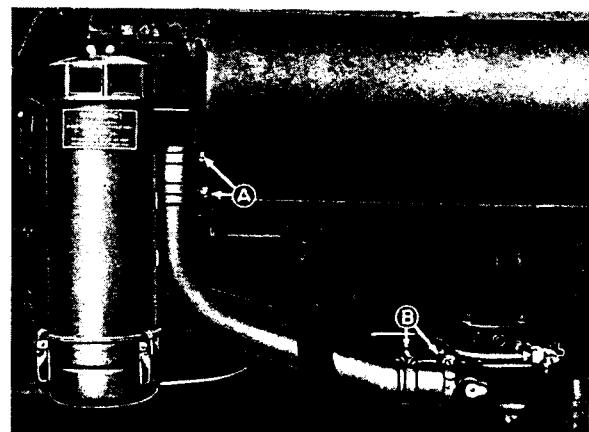
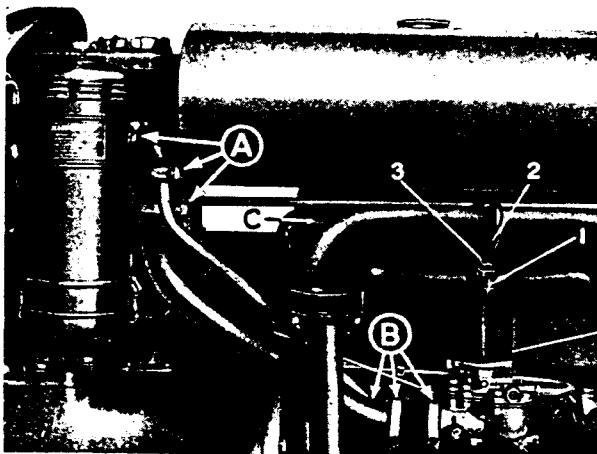
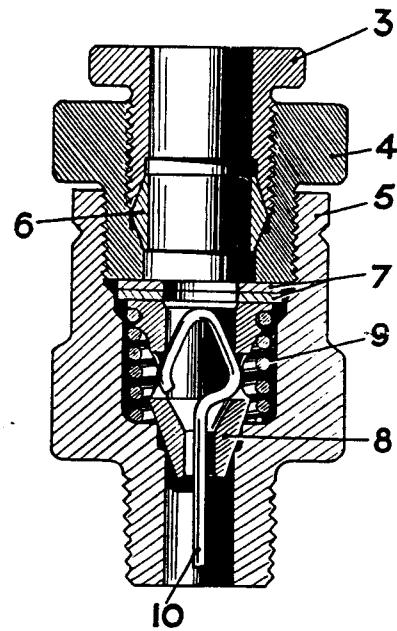

FIG. 7
FIG. 9
FIG. 10
For illustration of air cleaner fitted to tractors type TE-20 see Fig. 7, or to all other tractors see Fig. 9.
6. Ensure that the hose connections A and B, Figs. 7 and 9, on the air pipe leading from the cleaner to the carburetter (also, in the case of all tractors except type TE-20, from the cleaner to the crankcase) are air tight and the hoses not cracked or swollen.
**Note :** Tractors except type TE-20 —see Fig. 9. The air cleaner has a second, smaller, outlet connected by a rubber hose to a pipe leading through an elbow to the crankcase.
**Air Bleed to Induction Manifold — Engine Ventilation. Except Tractors type TE-20. Figs. 9 and 10.**
An air breather valve assembly (1), Fig. 9, is fitted to the induction manifold. Through this valve is induced a bleed of warm oil-saturated air, from the chamber enclosed by the rocker cover (C), assisting carburation and providing upper cylinder lubrication. The consequent depression in the rocker cover creates a flow of air through the push rod passages from the crankcase, which is replaced by air from the small outlet of the cleaner. The original design of the valve provided for an automatic weakening of mixture with increasing engine speeds. A modification subsequently incorporated in production above engine serial No. S.12771E, recommended the fitting of sufficient washers (7) as illustrated in Fig. 10 to seat the valve (8), thus providing a constant air bleed irrespective of engine speed. To ensure that the valve makes a seal on its seat, a gap must be maintained between the valve body (5) and nut (4). All figures given for carburettor adjustment apply only if this modification has been carried out.
**To Remove Air Breather Valve Assembly. See Fig. 9.**
1. Unscrew union screw (3) on valve assembly and pull up air bleed tube (2).
2. Remove valve assembly (1) from housing in manifold by unscrewing.
**To Dismantle and Clean Air Breather Valve. See Fig. 10.**
1. Unscrew valve nut (4) from body (5) and remove olive (6).
2. Remove washer(s) (7), valve (8) and spring (9).